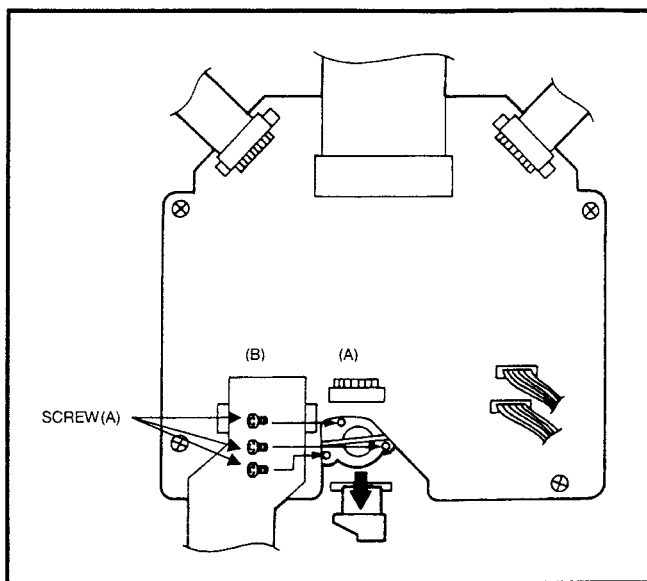

Fig.6-1-2
9. Remove the 3 screws (A), which have spring from the Cylinder Unit, then remove the Cylinder Unit without touching any mechanical parts as shown in figure 6-1-2.